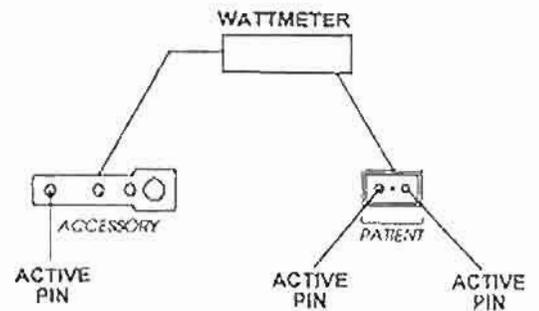

Figure 3-43. Receptacle test connections.
(2) Connect a wattmeter with a 300-ohm load from the active pin of the "ACCESSORY" receptacle to the "PATIENT" receptacle (fig 3-43).
(3) Depress the white "READY" keyboard switch.
(4) Observe the control panel. The following control panel actions will automatically occur.
(2) Connect a wattmeter with a 300-ohm load from the active pin of the "ACCESSORY" receptacle to the "PATIENT" receptacle. (Refer back to figure 3-43.)
(4) Observe the control panel. The following control panel will automatically occur.